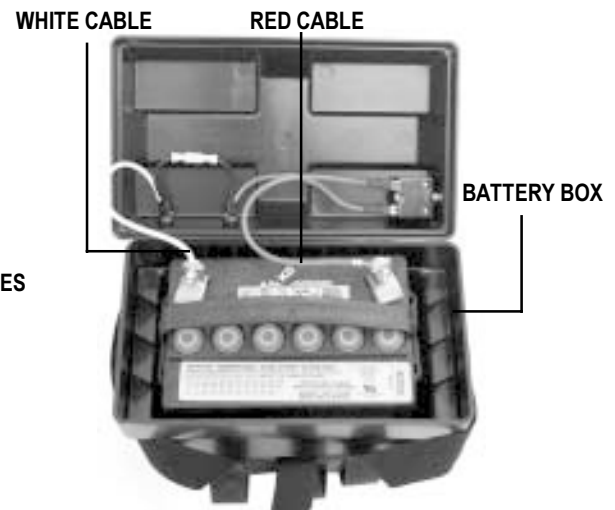

Figure 4. Battery Installation
3. Install each battery into a battery box. See figure 4.